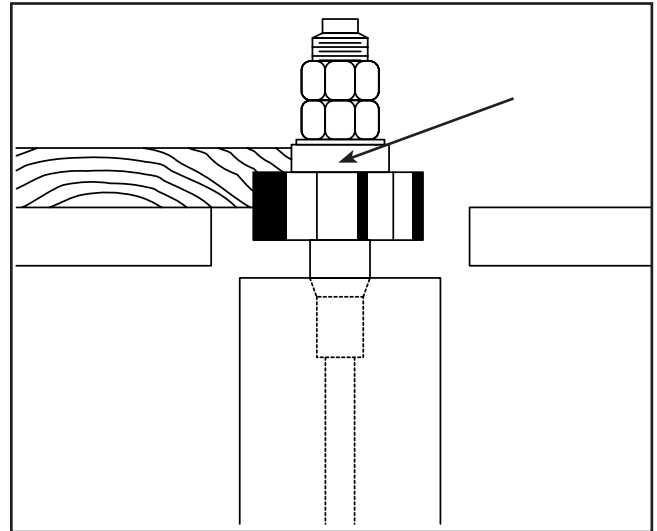

Figure 25. Rub collar installed above cutter.
2. **Above the cutter (preferred method—safer):** When the rub collar is used above the cutter as seen in **Figure 25**, the cut cannot be seen. This offers some advantage: the stock is not affected by slight variations in thickness and accidental lifting will not damage the workpiece. If lifting occurs, simply correct the mistake by repeating the operation.